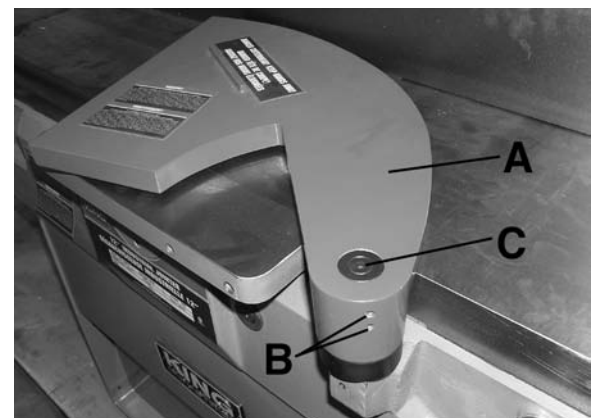

FIGURE 18
The cutterhead guard (A) Fig. 18, completely covers the cutterhead. During operation the material being jointed or planed pushes the guard out of the way and at the completion of the cut, the guard springs back over the cutterhead providing full coverage. If it ever becomes necessary to adjust the spring tension of the cutterhead guard, loosen two set screws (B) and turn screw (C) clockwise to increase or counterclockwise to decrease the spring tension. Then retighten the two set screws (B).